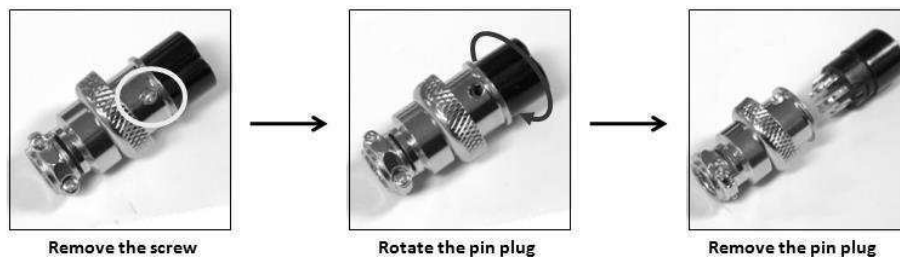

Figure 17 - Remote Control Connector
- a) Remove the black portion of the remote control connector plug by removing the screw as shown in **Figure 17** - Remote Control Connector.